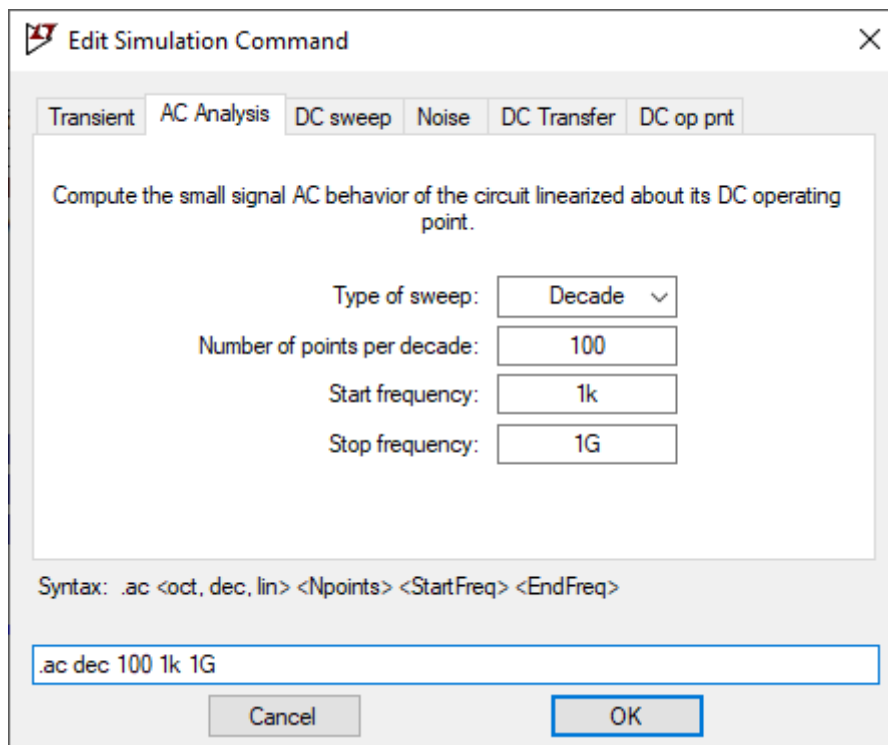

Fig. 6. AC analysis command
10. Run AC analysis for the output voltage (V_{out}) in accordance with the specifications mentioned in Fig. 6.